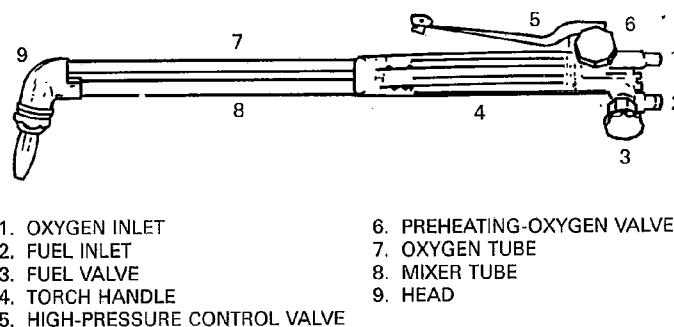

Figure 6—Manual Oxygen Cutting Torch
(1) *Hand Torch* (see Figure 6). A torch consisting of a rear body and handle equipped with valves to control the preheat oxygen and fuel gas, a spring-loaded valve for the cutting oxygen, tubes to carry the gases, and a head to accept the cutting tip.